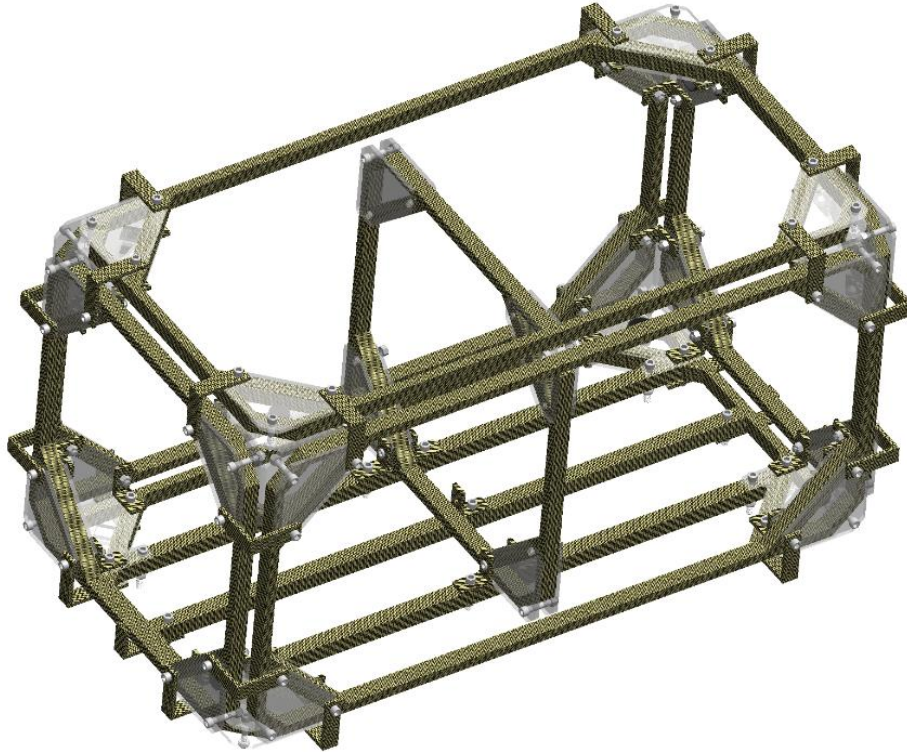

Figure 1.13
14. Attach the Top Coil (PN ASMB008) to the Right Coil (PN ASMB005), Left Coil (ASMB004), Back Coil (PN ASMB006), Front Coil (PN ASMB007) as shown in Figure 1.13. The Corner Supports for Antenna (PN THBC007) should line up to the Bottom Corner Supports for Antenna (PN THBC010). Bolt the currently unbolted holes in the brackets to the unbolted holes in the acrylic supports on the Back Coil using eight 2.5" 3/8-16 bolts (PN OUTS003), and eight 3/8-16 nuts (PN OUTS004). Note: match drill to fit as needed.